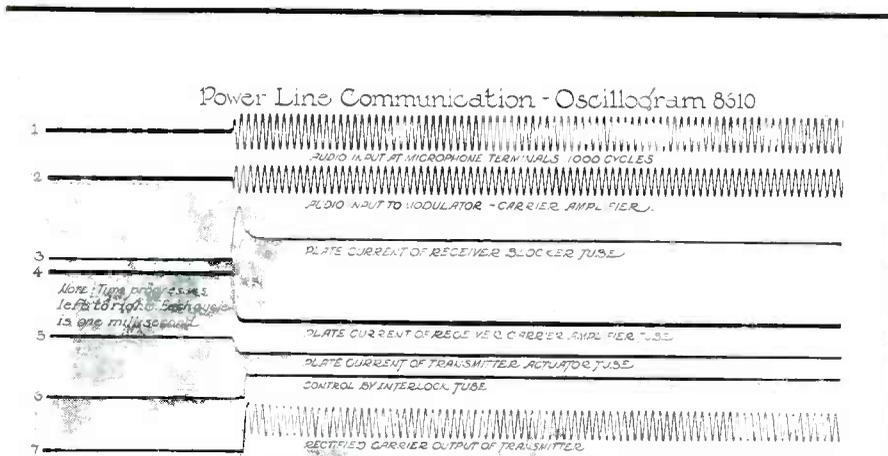
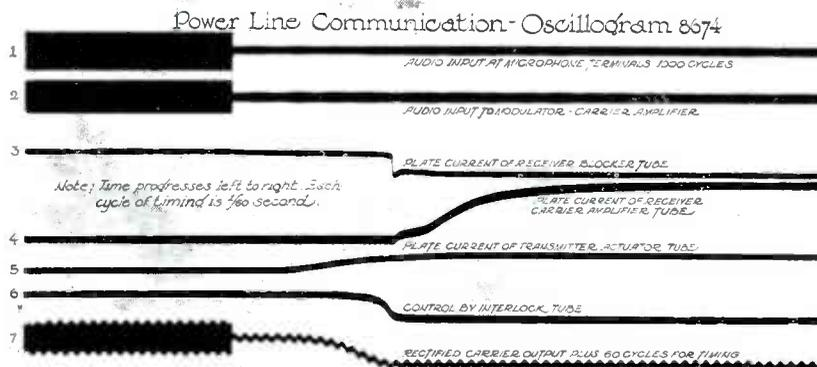

Fig. 3A—Oscillograms illustrating application of input tone
Fig. 3B—Oscillogram showing stopping of input tone
As shown in Fig. 3A, $g_a, g_b = g_a$, and g_c are the branch conductances of the symmetrical π , with the dissymmetrical π branch conductances g_a', g_b' , and g_c' given by Eq. (3) shown in Fig. 3B.